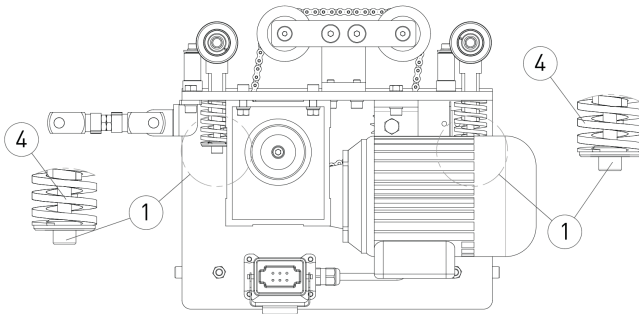

FIGURE 1
STEP 3: Unscrew (do not remove) the socket screws (f/n 1) that hold the adjustable wheel trolleys assembly. See Figure 1
STEP 10: Tighten the socket screws (Figure 1, f/n 1) against the springs (Figure 1, f/n 4), so that the friction wheels start to contact the upper face of the track profile. See Figure 7.